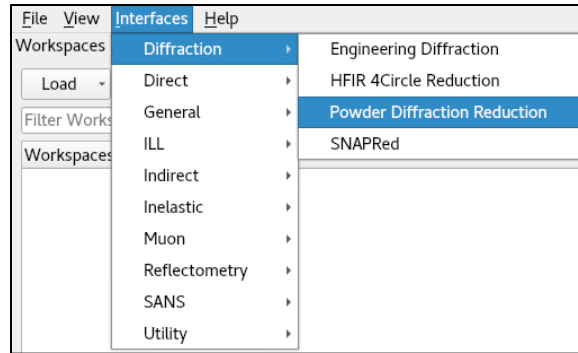

Figure 12. Select Interfaces --> Diffraction --> Powder Diffraction Reduction.
- 3.1.1. On the top menu bar in Mantid Workbench, select *Interfaces*, then *Diffraction*, then *Powder Diffraction Reduction* (Figure 12). This will launch the PG3 Reduction window.